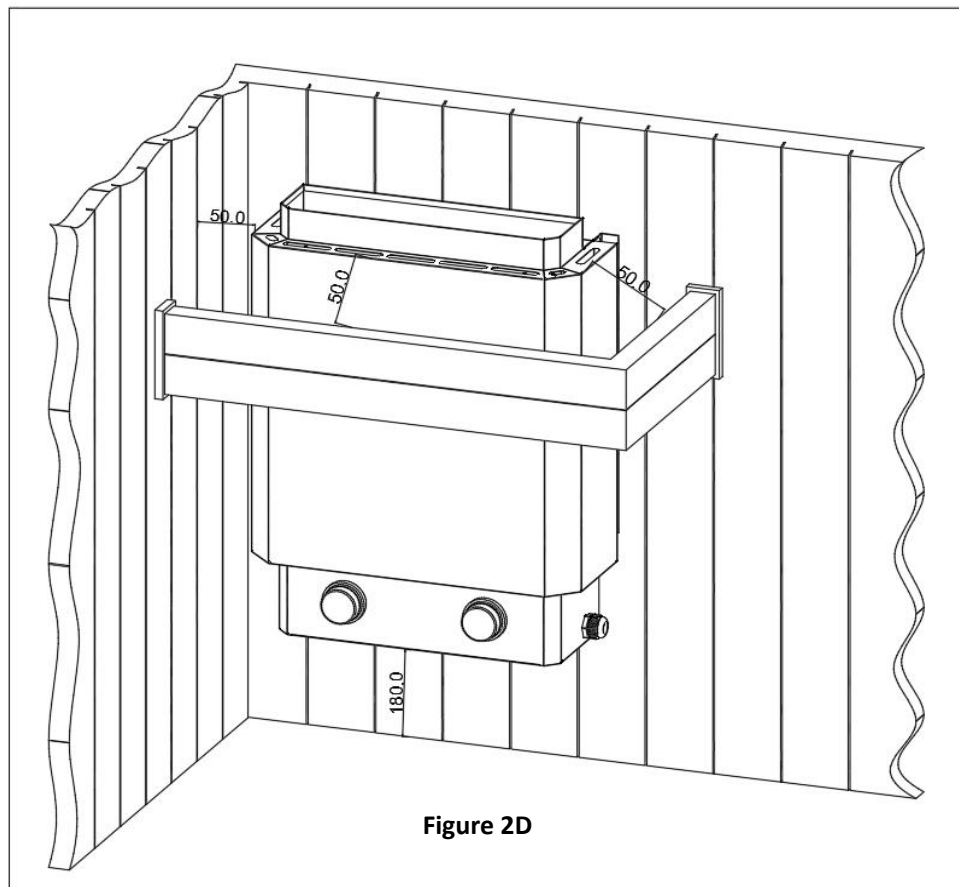

Figure 2D
- The sauna heater is installed at least 180mm above the floor. (See figure 2D)